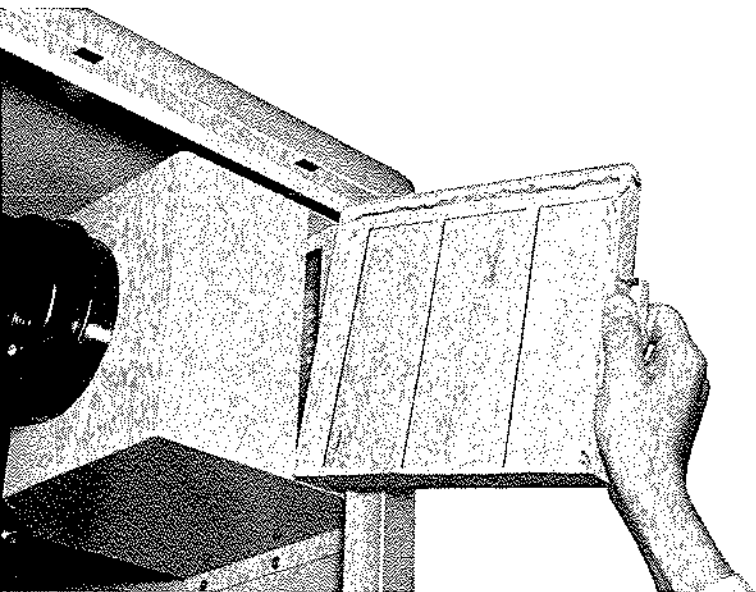

Figure 30. Projector Dust Filter Replacement
1. Withdraw the filter frame assembly from its compartment as shown in figure 30.